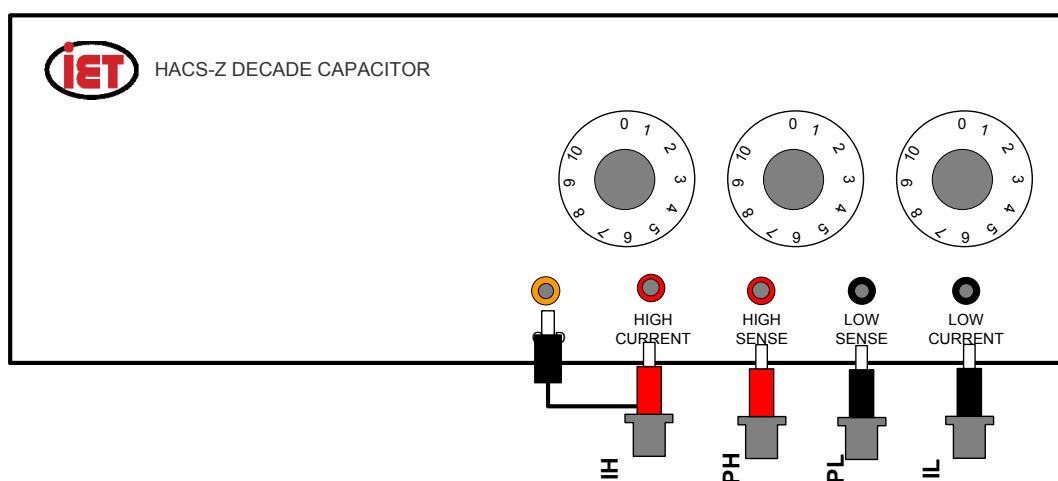

Figure 3-17: Connection to HACS-Z BP terminals with 1689-9602 cable and 1894 & 4684 adapters
- 1689-9602 (bnc-to-bnc Extender Cable) in combination with Pomona 1894 & 4684 bnc-to-banana adapters (see Figure 3-17)